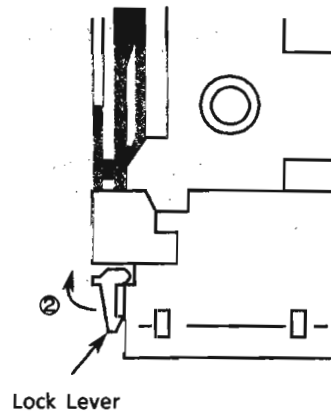

Fig..5
1. When installing the lift cam, Put the cam slider to the position shown in fig 5.